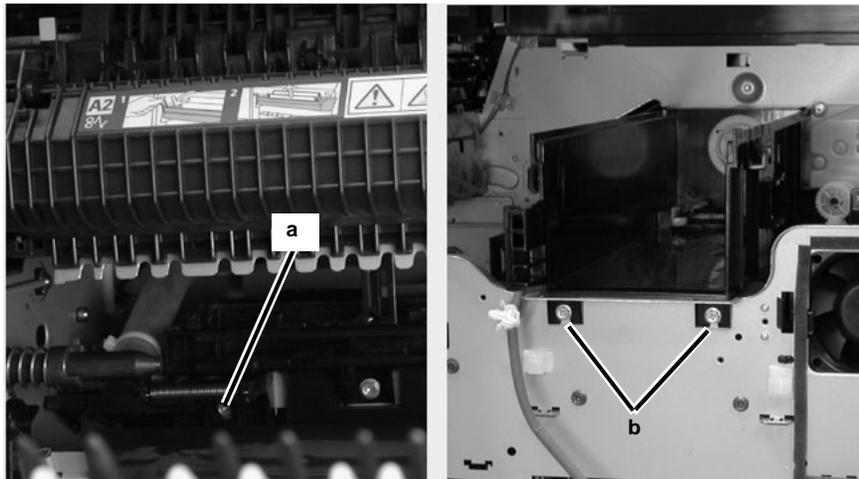

Figure 7 Removing The Screws
8. Remove the Toner Cartridge Guide (Figure 7).
- a. On the left rear of the guide, remove the Dispenser Tube Screw (1).
- b. Loosen the front Screws (2).